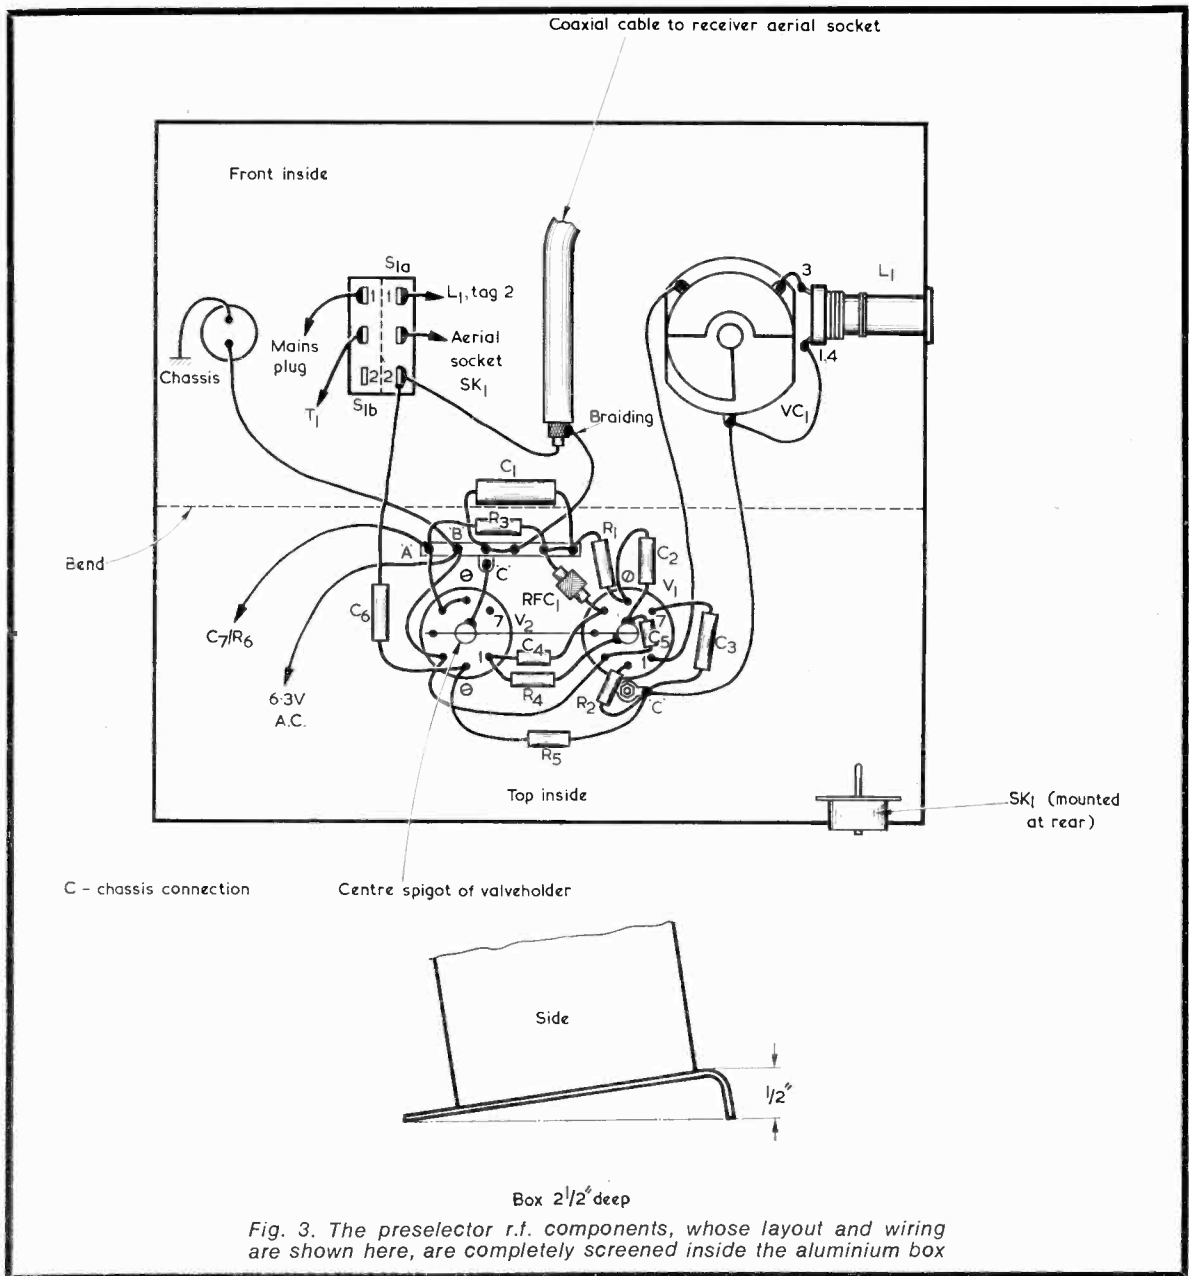

Fig. 3. The preselector r.f. components, whose layout and wiring are shown here, are completely screened inside the aluminium box
- 6-way tagstrip (see Fig. 3)
In Fig. 3 the box top and front sides are shown laid flat in order to reveal in slightly expanded form component layout and wiring. Except for a single 6-way tagstrip, wiring 'anchors' are provided by valveholder tags. If supplies are to be taken from the associated receiver or other power supply unit, the 200V h.t. positive connection should be made to tag 'A', 6.3V a.c. to tag 'B', and the common chassis connection to tag 'C'.